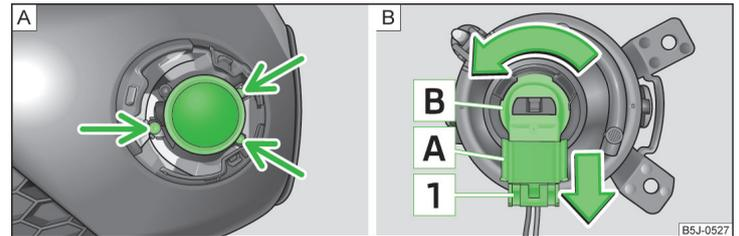

Fig. 160 Front bumper: Fog lights/fog lights: Replacing the light bulb
- › **A** Unscrew » page 159, *Vehicle tool kit* the screws » Fig. 160 - with the screwdriver .
- › Press the locking tab **1** » Fig. 160 on the connector **A** and remove the connector from the bulb holder **B**.